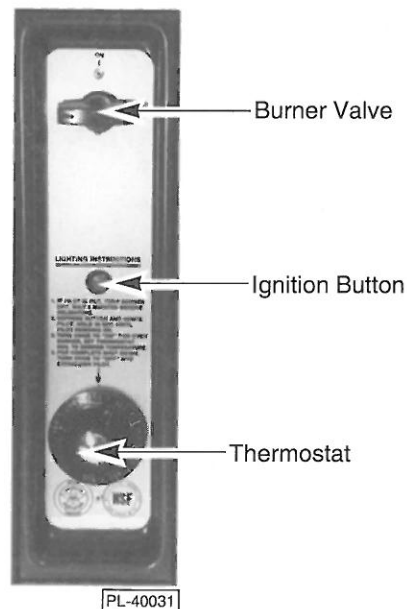
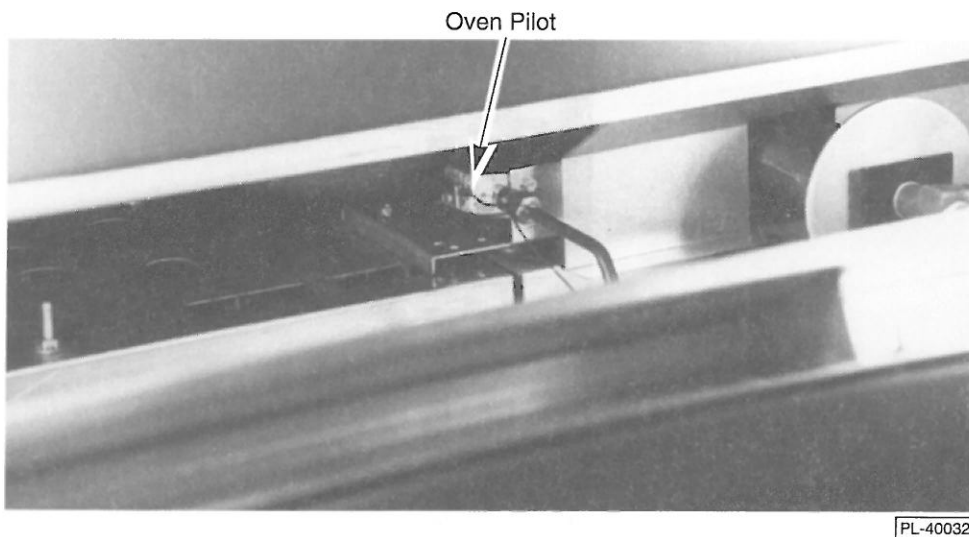

Fig. 2
Fig. 3
CONTROLS (Fig. 2)
3. Wait 5 minutes, then turn burner valve ON and depress ignition button (see Fig. 2). Using a lit taper, ignite oven pilot (Fig. 3). Continue to hold button in for approximately 30 seconds, then release.